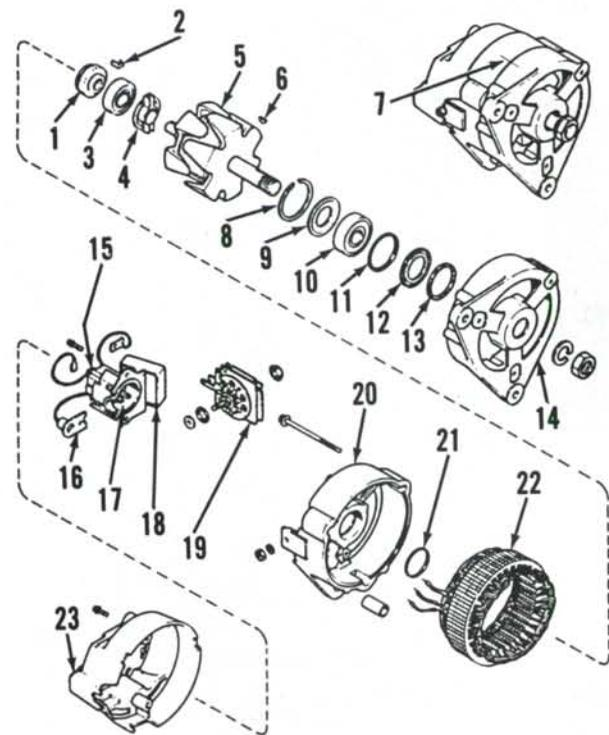

Fig. 128—Exploded view of standard-duty Lucas alternator showing component parts and their relative positions.
**162. DISASSEMBLY.** Scribe locating marks on alternator housings (7—Fig. 128), then remove end cover (23). Note location of stator leads and unsolder leads from rectifier (19). Use caution to not overheat diodes. Remove brush, regulator and rectifier assemblies. Remove retaining bolts and separate drive end housing (14) and rotor assembly (5) from rear housing (20) and stator assembly (22). Remove drive pulley, fan and shaft key, then press rotor and shaft (5) out of drive end housing (14) and front bearing (10). Remove snap ring (8), plate (9), bearing (10), pressure ring (11), plate (12) and felt seal (13). Unsolder field winding connections and remove slip ring (1) if rear bearing (3) or seal (4) are to be renewed. Press off rear bearing (3). Separate stator assembly (22) from rear housing (20).